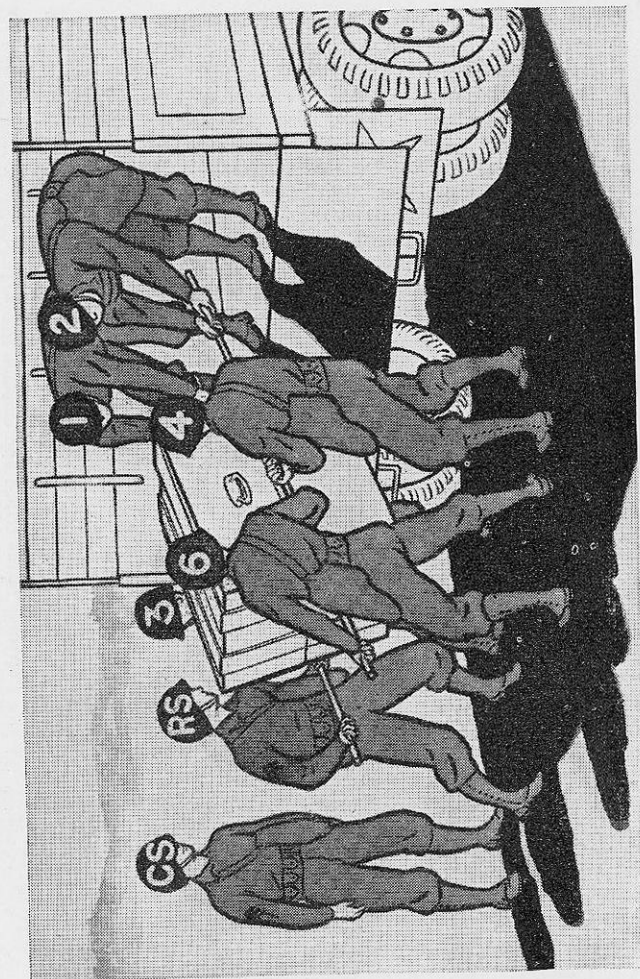

FIGURE 16.—READY—LOWER.
- RS, 3, and 1 (at left) and 6, 4, 2 (at right), lower director chest until only the forward ends (6 to 8 inches) of carrying bars rest upon rear of truck. (See fig. 16.)